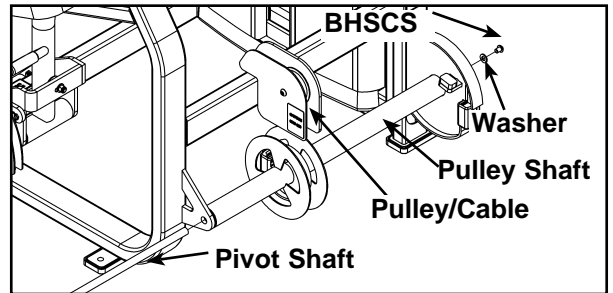

Figure 3
- F. Remove pulley then remove other end of belt from cam. See Figure 3.
- G. Remove one of the two BHSCS (Button Head Socket Cap Screws) securing the pivot shaft. See Figure 3.
- H. Carefully remove pivot shaft and pulley shaft. See Figure 3. **NOTE:** Be extremely careful when removing shaft so you don't ruin the threads on the shaft.
- L. Carefully attach pulley shaft using the pivot shaft and BHSCS removed in steps 4G and 4H. See Figure 3.